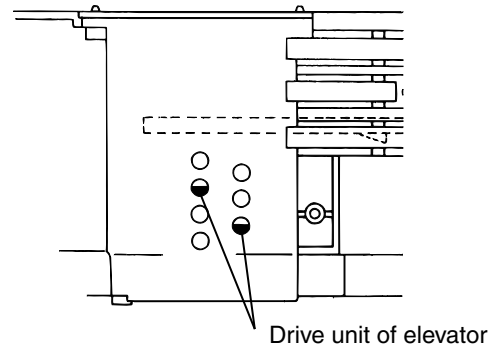
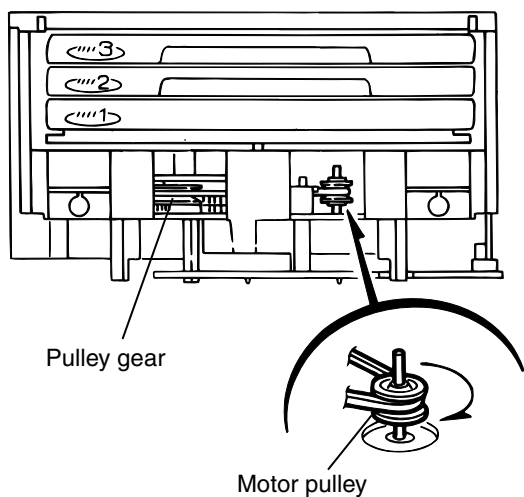

Fig.7
Fig.8
[Caution] In case the driver unit elevator is not at above position, set the elevator to the position as shown in Fig.7 by manually turning the pulley gear as shown in Fig.8.
13. Manually turn the motor pulley in the clockwise direction until the lifter unit stopper is lowered from the section "E" of DVD tray assembly(See Fig.8).